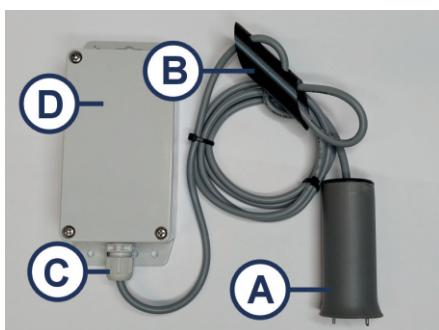

FIGURE 2
- B. A receiver unit installed at any suitable location in the building giving audible and visible alarm. (Figure 2 and 3)